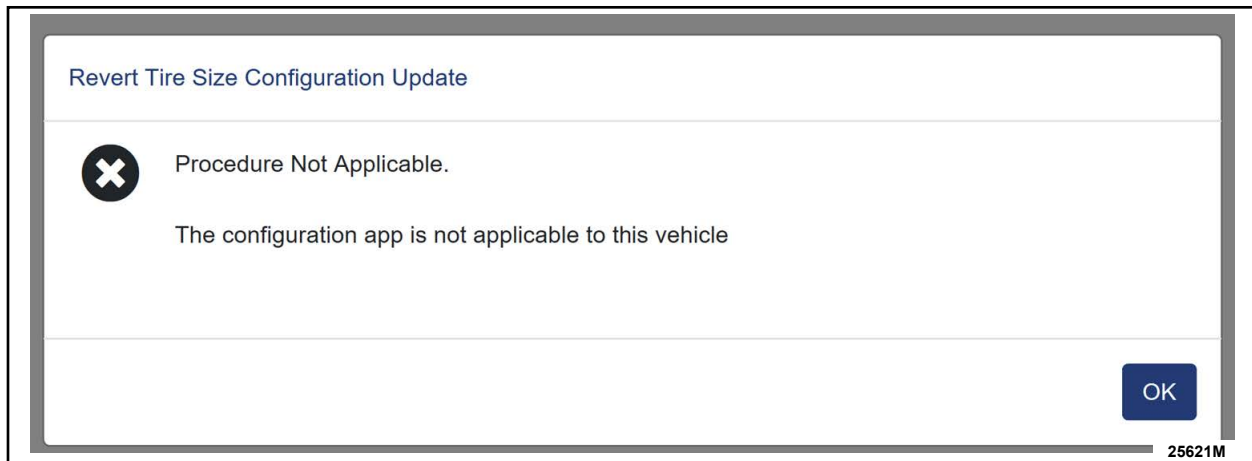

FIGURE 9
20. Was **Procedure Not Applicable** displayed on the screen as shown in Figure 9?